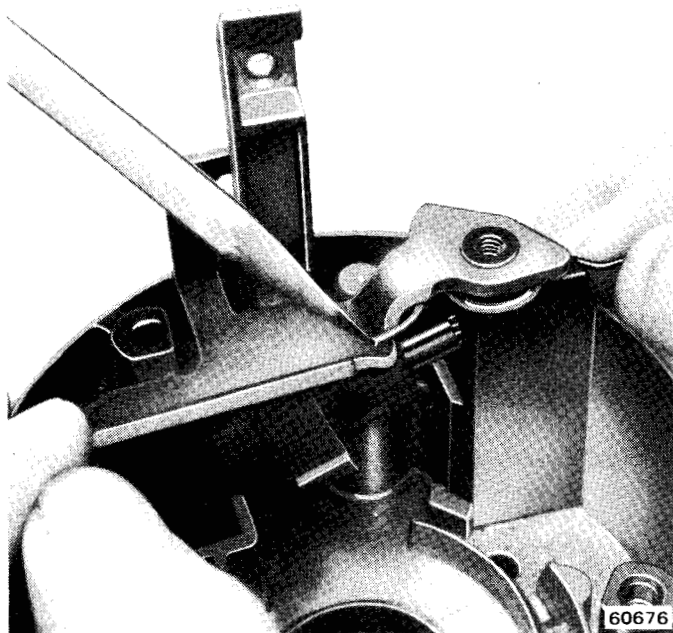

Fig. 11-22 Positioning Release Lever Spring
- (5) Install release lever return spring over post in housing (fig. 11-21). Insert release lever finger in slot in lock rack and position hole in lever over threaded hole in housing post (fig. 11-22). Be sure inner end of spring contacts release lever as shown in figure 11-22.